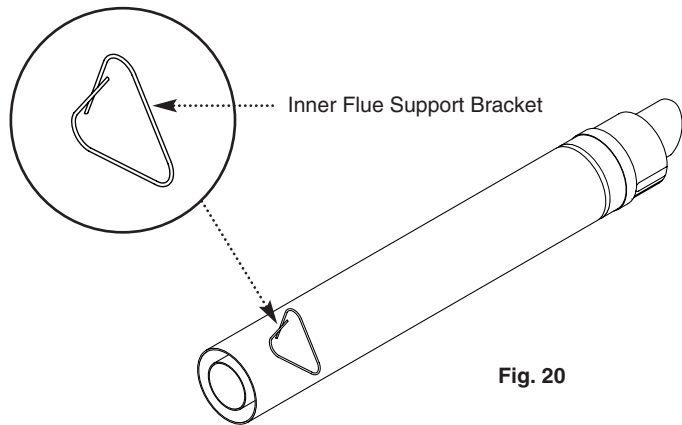

Fig. 20
7. Take the inner flue support bracket (if not already fitted) and engage it over the flue duct. This will centralise the flue and air ducts, and ease assembly (Fig. 20).